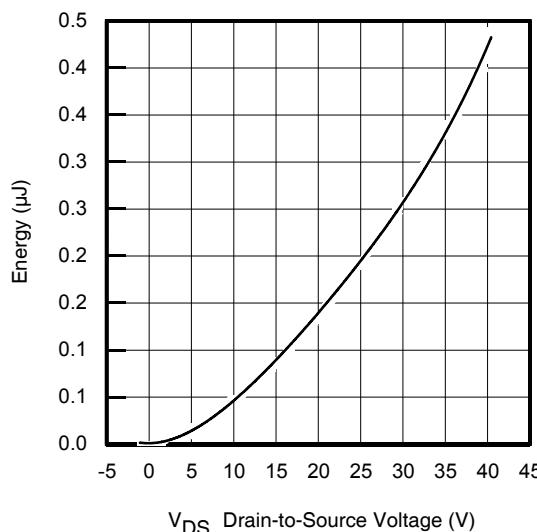

Fig. 11 Typical Coss Stored Energy
- ① Calculated continuous current based on maximum allowable junction temperature. Bond wire current limit is 100A by source bonding technology. Note that current limitations arising from heating of the device leads may occur with some lead mounting arrangements. (Refer to AN-1140)
- ② Repetitive rating; pulse width limited by max. junction temperature. (See fig. 11)
- ③ Limited by $T_{J\text{max}}$, starting $T_J = 25^\circ\text{C}$, $L = 0.039\text{mH}$, $R_G = 50\Omega$, $I_{AS} = 76A$, $V_{GS} = 10V$. Part not recommended for use above this value.
- ④ $I_{SD} \leq 76A$, $di/dt \leq 1255\text{A}/\mu\text{s}$, $V_{DD} \leq V_{(\text{BR})\text{DSS}}$, $T_J \leq 175^\circ\text{C}$.
- ⑤ Pulse width $\leq 400\mu\text{s}$; duty cycle $\leq 2\%$.
- ⑥ $C_{oss \text{ eff. (TR)}}$ is a fixed capacitance that gives the same charging time as C_{oss} while V_{DS} is rising from 0 to 80% V_{DSS} .
- ⑦ $C_{oss \text{ eff. (ER)}}$ is a fixed capacitance that gives the same energy as C_{oss} while V_{DS} is rising from 0 to 80% V_{DSS} .
- ⑧ When mounted on 1" square PCB (FR-4 or G-10 Material). For recommended footprint and soldering techniques refer to application note #AN-994
- ⑨ R_θ is measured at T_J approximately 90°C .
- ⑩ Pulse drain current is limited by source bonding technology.